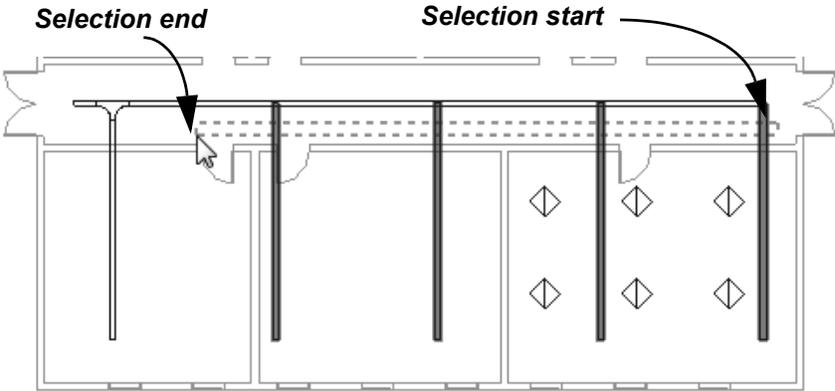

Figure 2-89
- 8. Select the horizontal cable tray and then draw a crossing window from right to left, as shown in Figure 2-89.